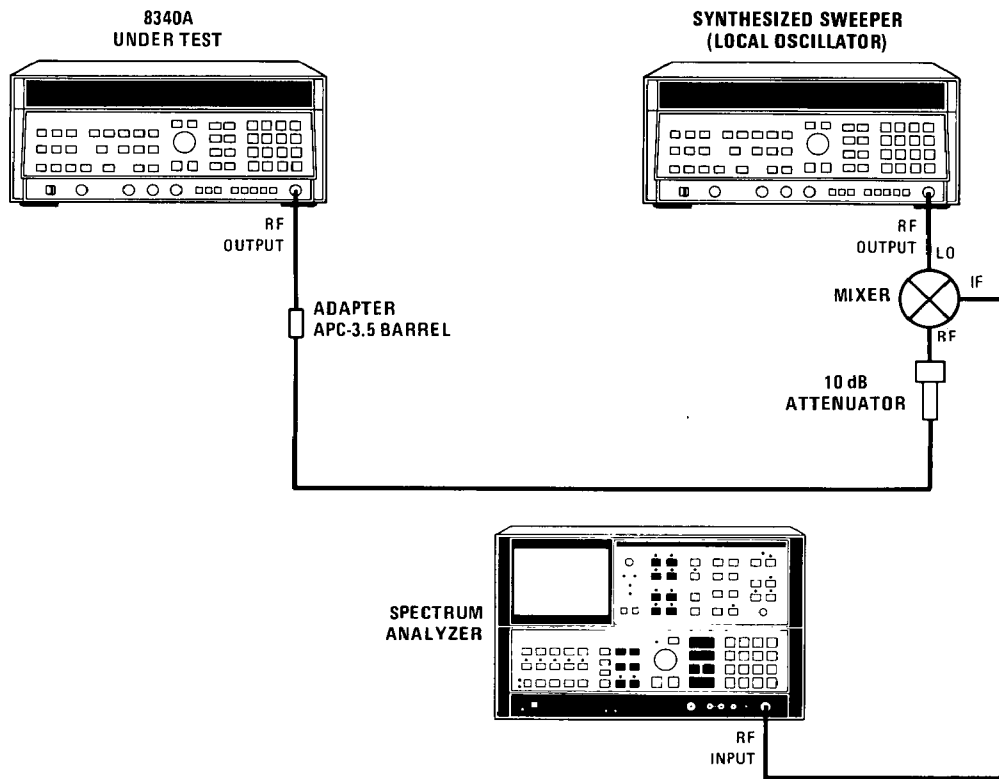

Figure 5-41. Unlevelled Squegging Test Setup.
25. Connect equipment as shown in Figure 5-41. Connect the mixer at the Local Oscillator (LO) 8340A RF output connector to obtain maximum mixer LO input level. Allow at least 30 minutes warm up time.